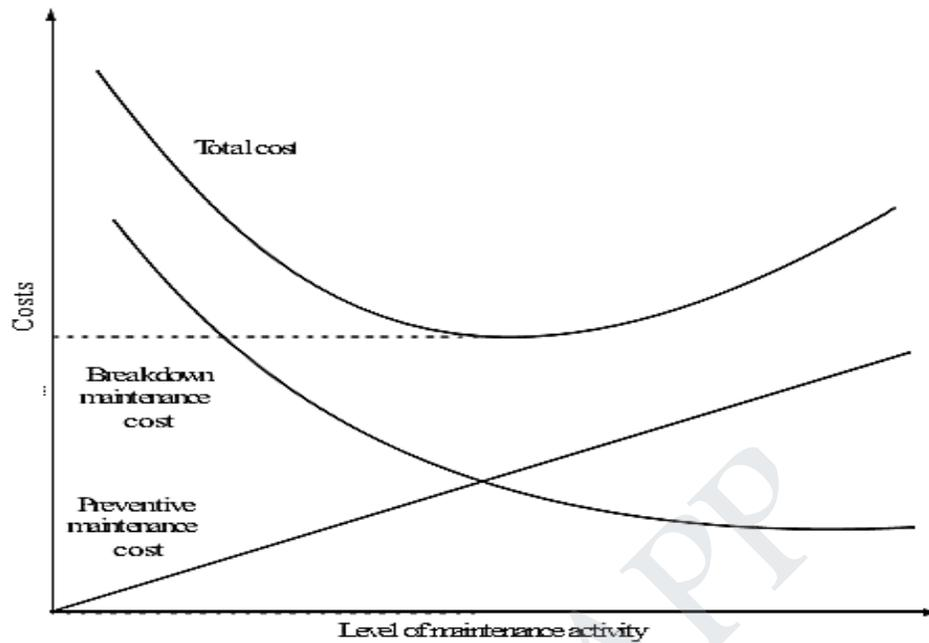

Fig. 8.1 Maintenance costs.
Maintenance activity can be classified into two types: preventive maintenance and breakdown maintenance. *Preventive maintenance* (PM) is the periodical inspection and service activities which are aimed to detect potential failures and perform minor adjustments or repairs which will prevent major operating problems in future. *Breakdown maintenance* is the repair which is generally done after the equipment has attained down state. It is often of an emergency nature which will have associated penalty in terms of expediting cost of maintenance and down time cost of equipment. Preventive maintenance will reduce such cost up to a point. Beyond that point, the cost of preventive maintenance will be more when compared to the breakdown maintenance cost. The total cost, which is the sum of the preventive maintenance cost and the breakdown maintenance cost, will go on decreasing with an increase in the level of maintenance up to a point. Beyond that point, the total cost will start increasing. The level of maintenance corresponding to the minimum total cost is the optimal level of maintenance. The concepts are demonstrated in Fig. 8.1.